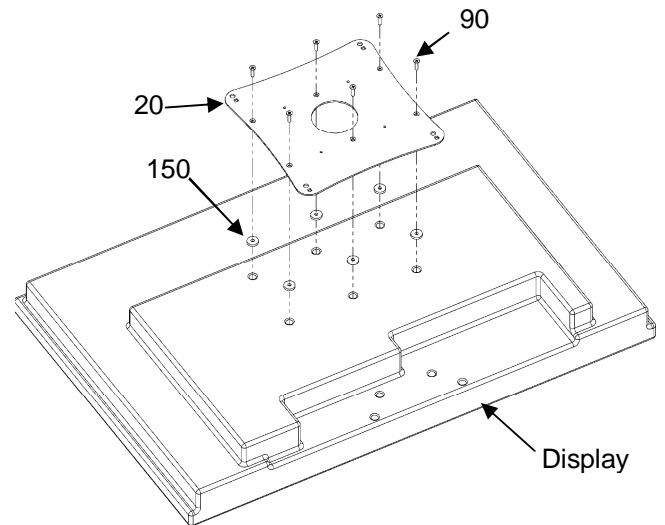

Figure 8. Attach Interface Bracket to Display
2. Place six spacers (150) over six mounting holes in display as shown in Figure 8
3. Attach VESA Plate (20) to display using six flat head screws (90, 190) (see Figure 8).